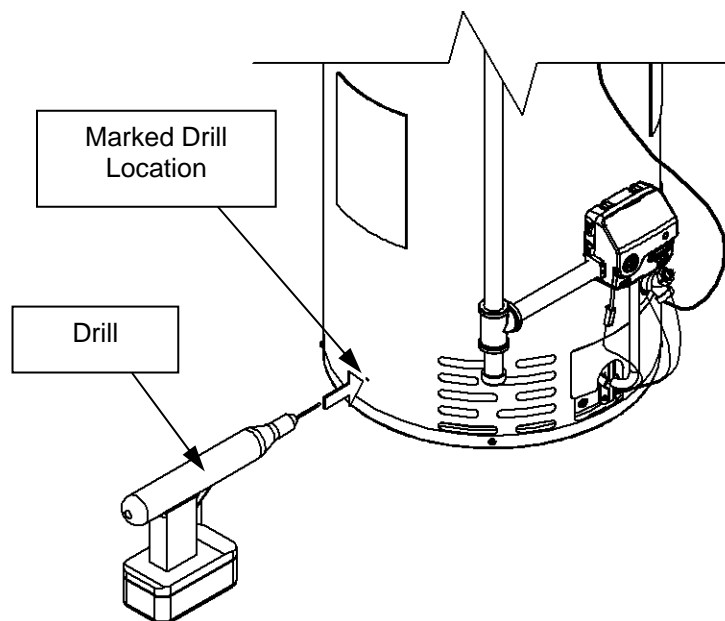

Figure 65
Step 14: Using a 1/8" drill bit and drill, drill the screw hole that was marked in Step 12. This is shown in Figure 65.